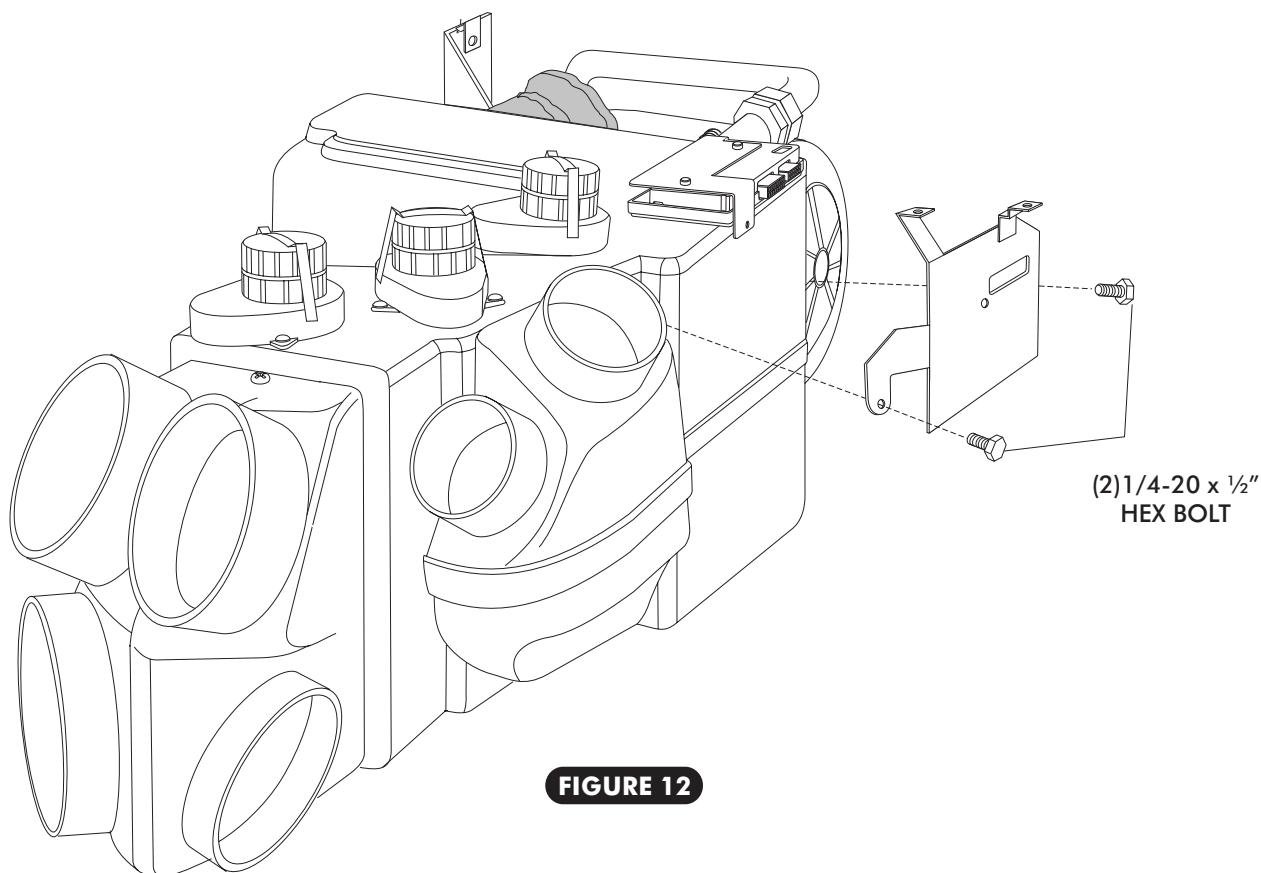

FIGURE 12
- INSTALL FRONT MOUNTING BRACKET ON EVAPORATOR USING (2) 1/4-20 x 1/2" HEX BOLTS AND TIGHTEN AS SHOWN IN FIGURE 12, BELOW.